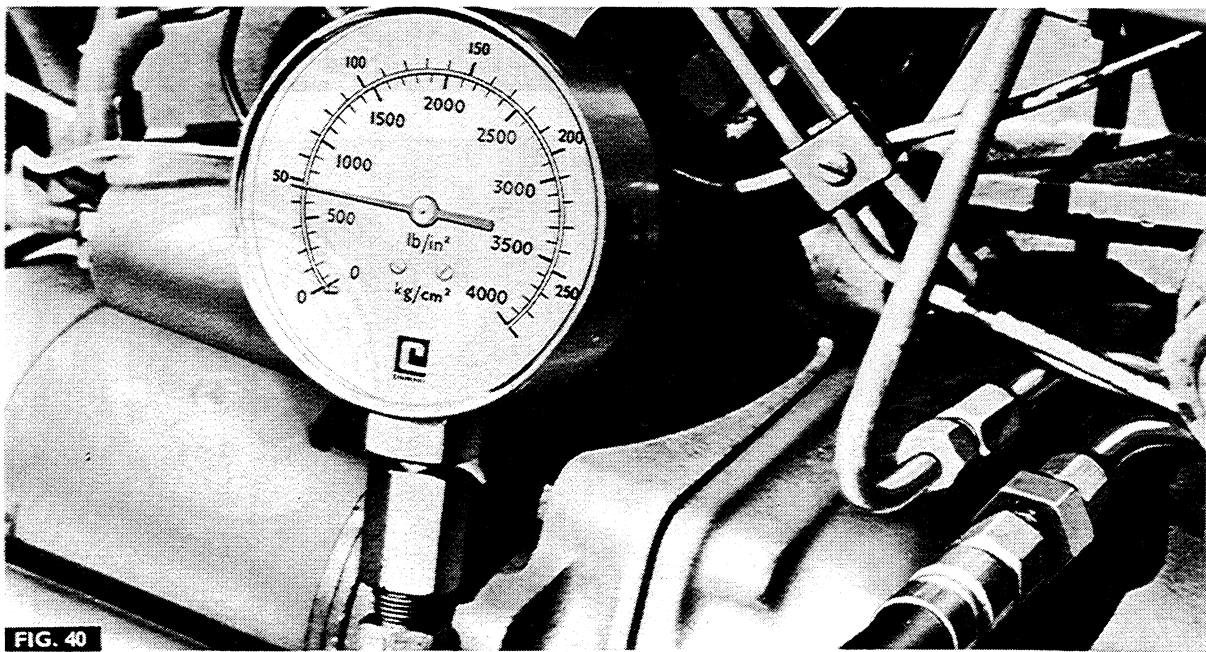

FIG. 40
1. Fig. 40. Release the rear Multi-Power pipe as shown and fit adapter MF 810-4/1 and the MF 148A gauge, as shown.